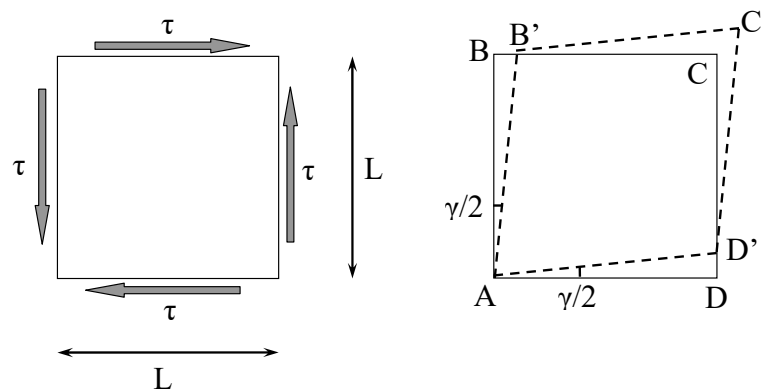

Figure 1
In this case, we want to obtain the expression $G(E, \nu)$, G being the shear modulus of the material. For this purpose, consider an infinitesimal element of the continuous medium, with dimensions $L \times L$ (the third dimension can be considered as unit value), subjected to a pure shear state, as shown in Figure 1. In this figure, the deformation of this element is also shown, which corresponds to a distortion γ .
- b) Express the longitudinal strain, ϵ , experienced by the diagonal AC (Figure 1) as a function of the distortion, γ (that is, apply compatibility conditions). For this purpose, small strain conditions must be considered.